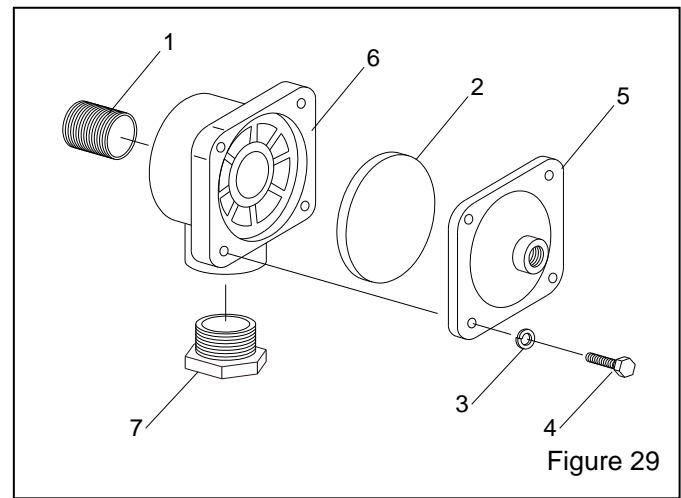

Figure 29
9.8 1" Diaphragm Outlet Valve, Figure 29